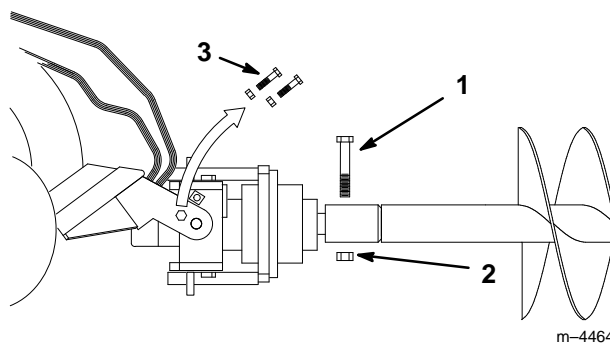

Figure 8
11. Secure the auger to the drive head with the 7/8"-9 x 4-1/2" bolt and 7/8"-11 nut (Fig. 8).
12. Remove the bolts and nuts from the cradle arms that were installed in step 3 and 5 (Fig. 8).